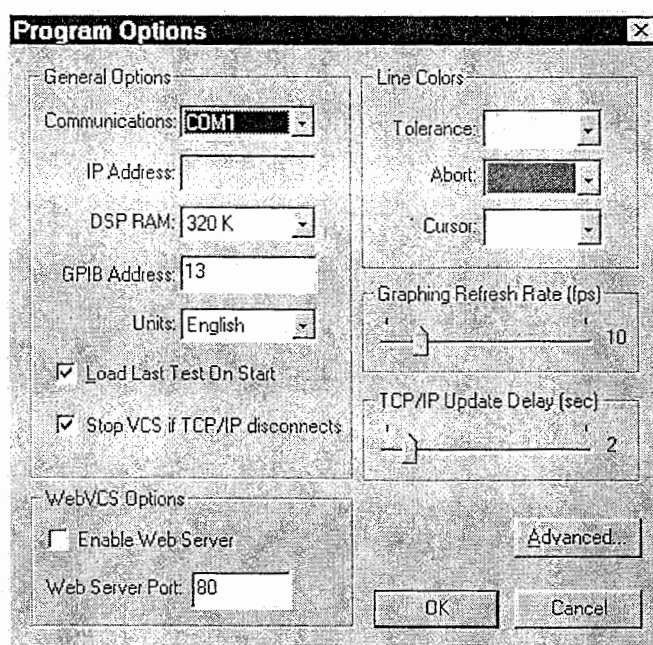

Figure 6-1. Program Options Window.
The General Options command provides access to the global commands and the advanced internal settings for the vibration modes. When you select General Options from the Options menu, WinVCS opens the Program Options window. See Figure 6-1. The window's fields and buttons are described below.
1. Select General Options from the Options menu to display the Program Options dialog box. See Figure 6-1.